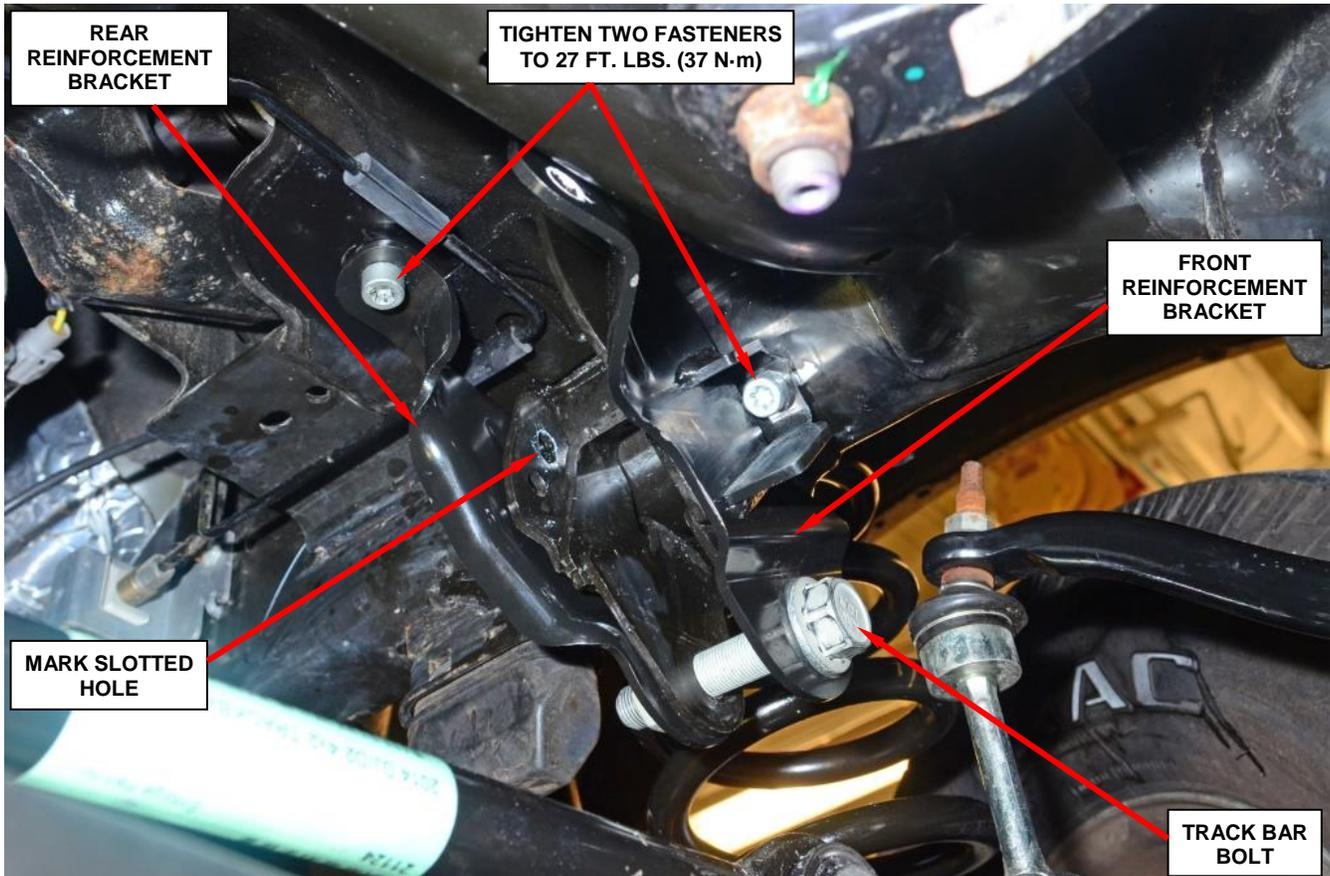

Figure 53 – Install and Tighten Two M10 Fasteners / Mark Slotted Hole
20. Mark the rear bracket at the upper slotted hole (Figure 53).